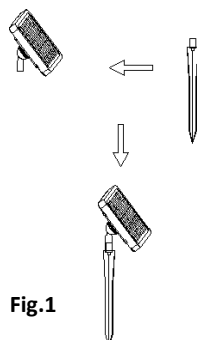

Fig.1
- Choose a place to locate the unit where there is abundant and unobstructed sunshine during the day. Any cover or shade on the solar panel will affect its performance to charge the batteries resulting in a shorter run time of the lights during the night (Fig.1). IDEAL LOCATION OF THE SOLAR PANEL WILL BE FACING SOUTH AT A 45 DEGREE ANGLE TO THE HORIZON.